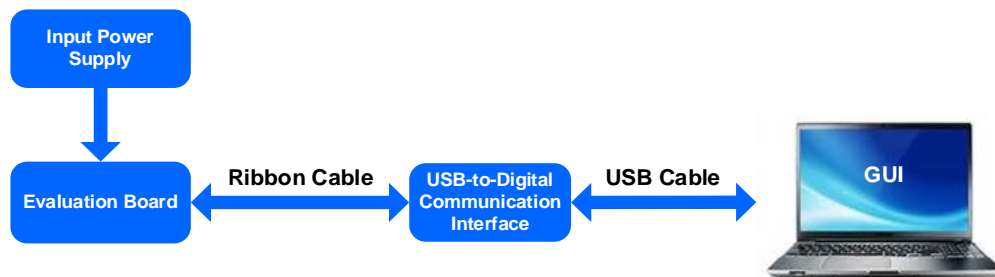

Figure 1: Digital Interface Evaluation Kit Set-Up
7. To use the enable (EN) function, apply a digital input to the EN pin. Drive EN above 1.2V to turn the regulator on; drive EN below 1.1V to turn it off. If the enable function is not used, EN can be connected to VIN through two resistor dividers. Ensure that the EN voltage (V_{EN}) does not exceed 4V.
- d. Evaluate the device with the MPQ2287's GUI, such as the PG delay time and switching frequency (f_{sw}). Figure 1 shows the digital interface evaluation kit set-up.